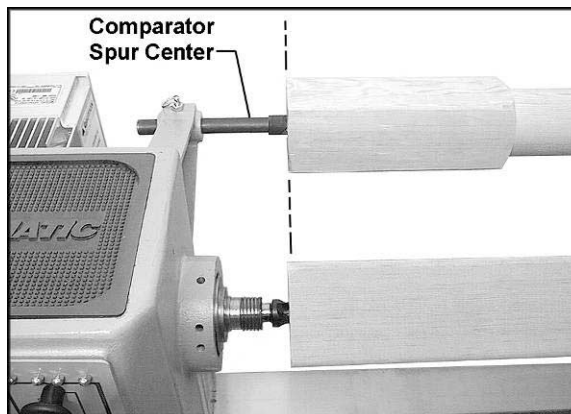

Figure 23
2. Install the comparator *spur center* into the headstock bracket, by lifting up on the spring pin and inserting the comparator spur center until its point is about even with the point of the spur center in the headstock spindle. See Figure 23. The spring pin in the bracket should engage one of the holes in the comparator center at this position.